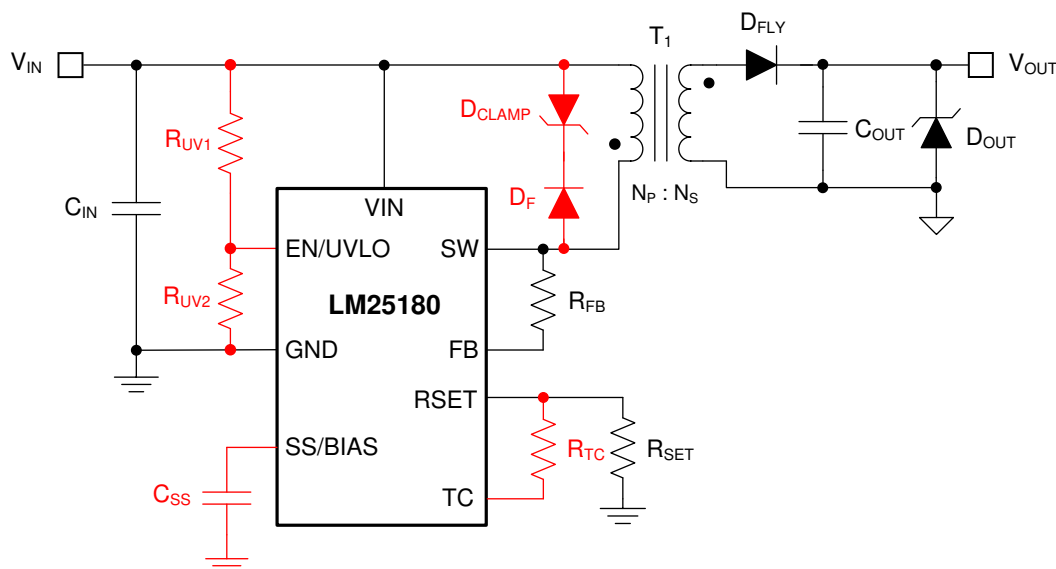

FIG 19. LM25180 Flyback Converter Schematic (Optional Components in Red)
Figure 19 shows a typical schematic of the LM25180 PSR flyback circuit. Components denoted in red are optional depending on the application requirements.
To minimize output voltage regulation error, the LM25180 senses the reflected secondary voltage when the secondary current reaches zero. The feedback (FB) resistor, which is connected between SW and FB as shown in 图 19, is determined using 式 8, where R_{SET} is nominally 12.1 kΩ.